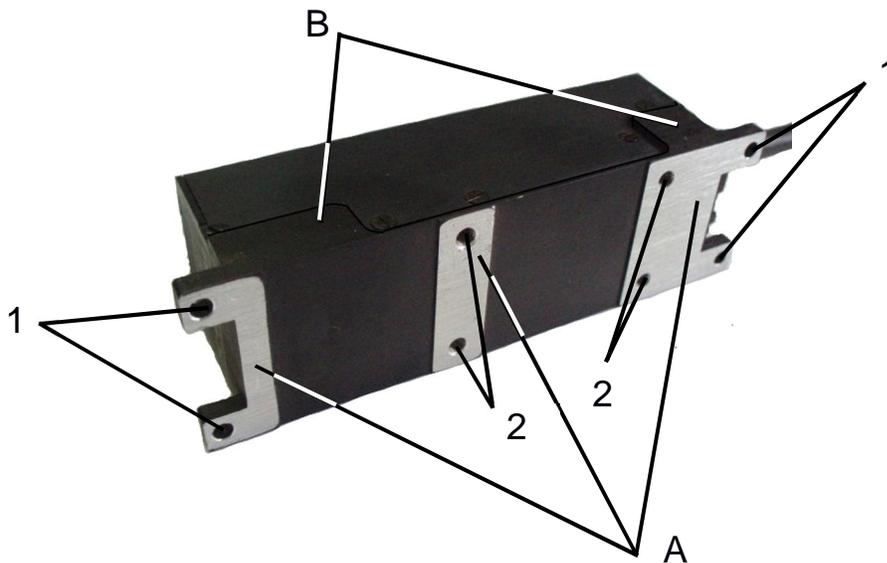

Fig.4.1. AHRS mounting surfaces A, B and mounting holes 1, 2
The Inertial Labs™ AHRS housing has two base surfaces A and B (see Fig.4.1) that are designed for the AHRS mounting during its run and testing.
The bottom base surface (A) has 4 holes $\varnothing 2.6$ mm on 4 lugs (see Fig.4.1, positions 1) and 4 threaded holes M3x6 mm (see Fig.4.1, positions 2)
- 1) Use 4 holes $\varnothing 2.6$ mm on 4 lugs (see Fig.4.1, positions 1).
- 2) Use 4 threaded holes M3x6 mm on the bottom of AHRS (see Fig.4.1, positions 2).